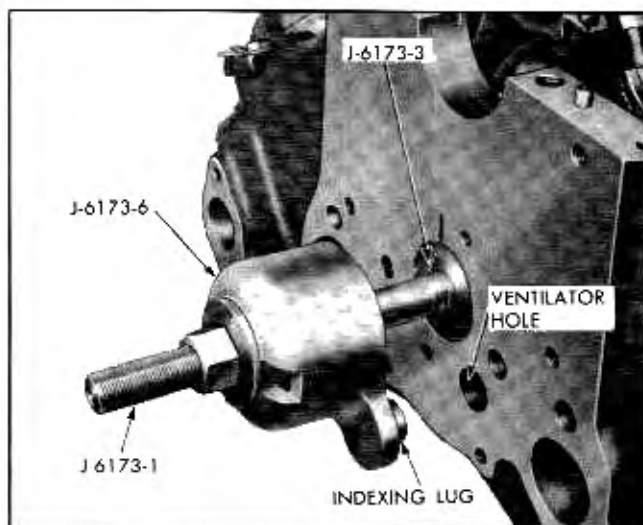

Fig. 6-69 Positioning Indexing Collar
4. Insert shaft and Indexing Collar through Remover and Replacer Adapters and position lug on Indexing Collar in ventilator hole in front of block (Fig. 6-69). This indexes the shaft so that it cannot rotate.
6. Insert Shaft with Indexing Collar, thrust washer, and nut through Remover, Pilot and Replacer Adapters and index lug on Collar with ventilation hole in front of block (Fig. 6-69).